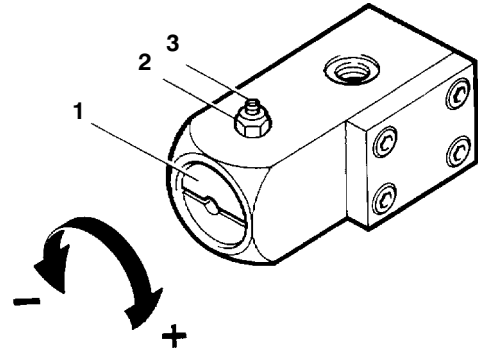

Fig. 4 Pressure maintaining valve
The pressure maintaining valve (Fig. 4) is adjusted at the factory to the required pressure and normally does not require regular maintenance or readjustment. In case of readjustment becoming necessary, loosen jam nut (2) and set screw (3). Adjust screw (1) to the required pressure using a suitable screwdriver.